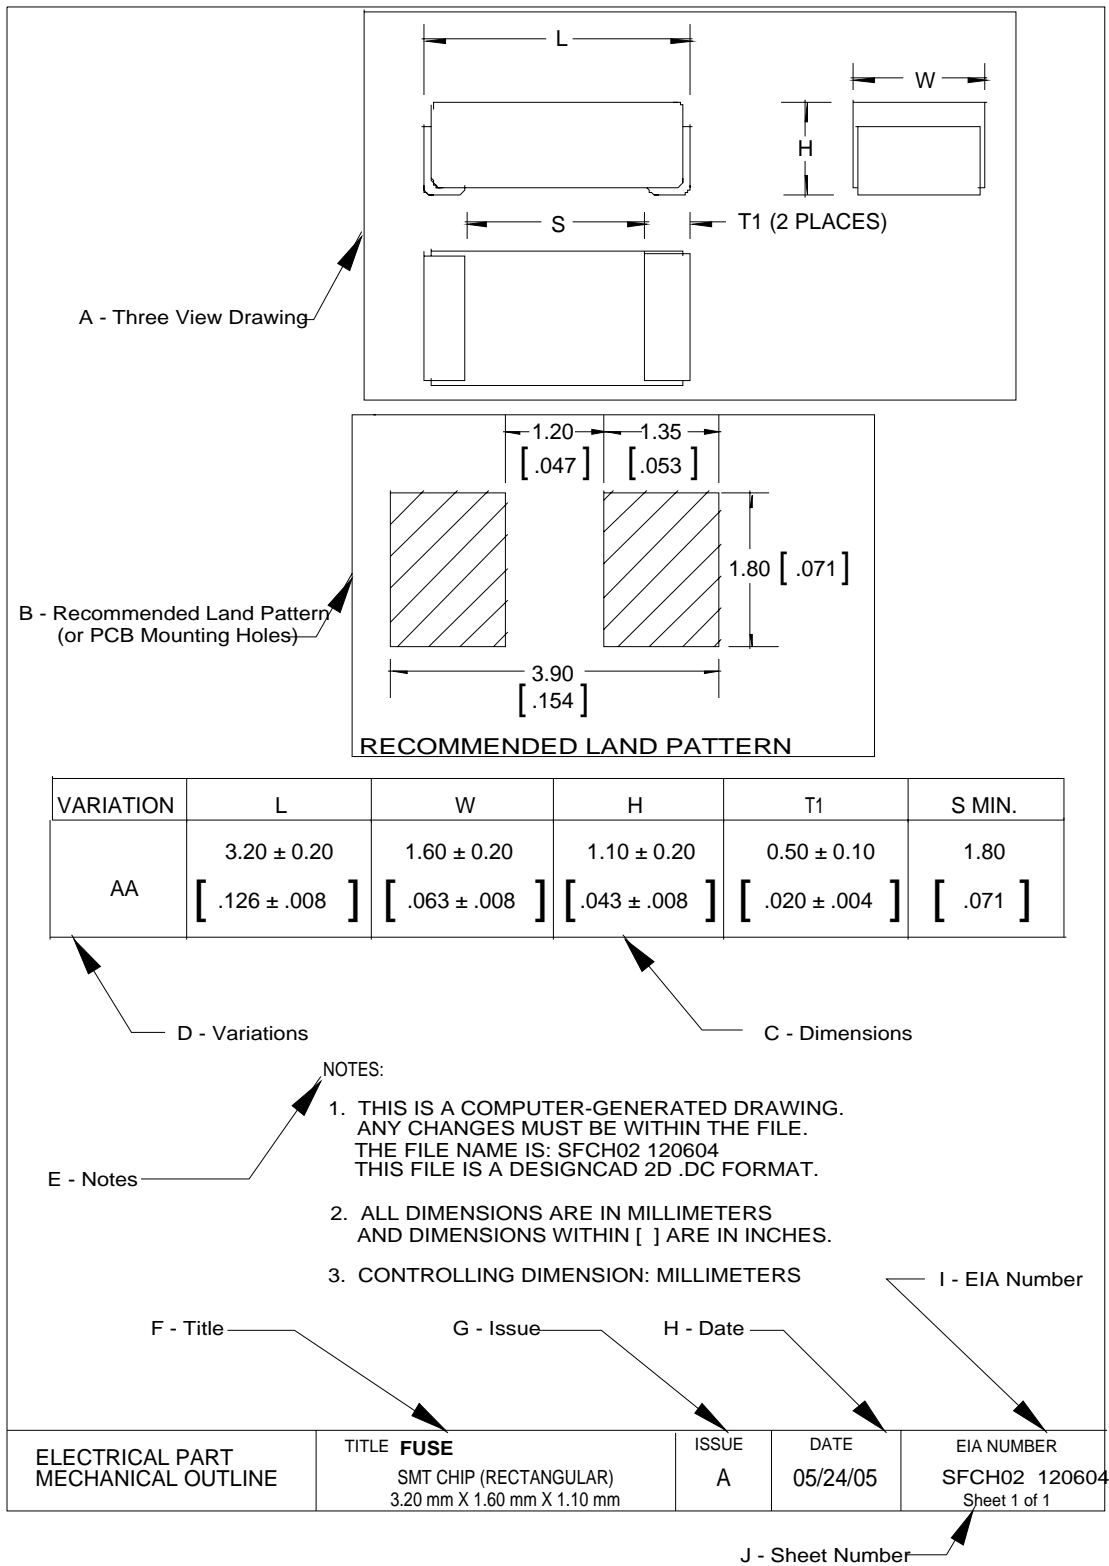

FIGURE 1
Several outline parameters are shown in Figure 1, following. The intent of these outlines is to provide only mechanical information for use by the design engineer without directly supplying the source of the device.
- 5.1 A three-view line drawing showing important dimensions for the device (Figure 1, A) shall be provided at the top of the Mechanical Outline.
- 5.2 A recommended land pattern for surface mount devices, or hole layout and dimensions for leaded devices, shall be located immediately below the three-view line drawing. (Figure 1, B) Note that the dimensions provided are only “recommended”. The end user may elect to deviate from the recommendations, provided they have adequate spacing for their application. Components not intended for surface mount or leaded connections (e.g. cartridge devices to be used in clips or holders) need not have a recommended land pattern.
- 5.3 Dimensions are always provided in a table (Figure 1, C) as letter references to the three-view line drawing. These dimensions will be provided as millimeter and [inch] units. Dimensions for the recommended land patterns, or hole layout, may be provided on the drawings, or in the associated “Variation” table. (Figure 1, B)
- 5.4 Each “Variation” (e.g. AA, AB, AC, etc.) will provide specific component dimensions for an available device type. This is shown in Figure 1, D. The nominal values may be equivalent, but there may be differences in the tolerances. Or, there may be slight differences in the nominal values and tolerances. If the number of “Variations” exceeds the space available on the first page of the Mechanical Outline, an additional page will be added. (Figure 1, J) The EIA Drawing Number (Figure 1, I) will remain the same for all pages of the same Mechanical Outline.
- 5.7 The Title (Figure 1, F) shall consist of a brief description (including component type) of the package being presented.
- 5.8 Both the Mechanical Outline Issue (Figure 1, G) and Date (Figure 1, H) will be assigned by the P-4 Committee upon final acceptance at the following ECA P-4 meeting.